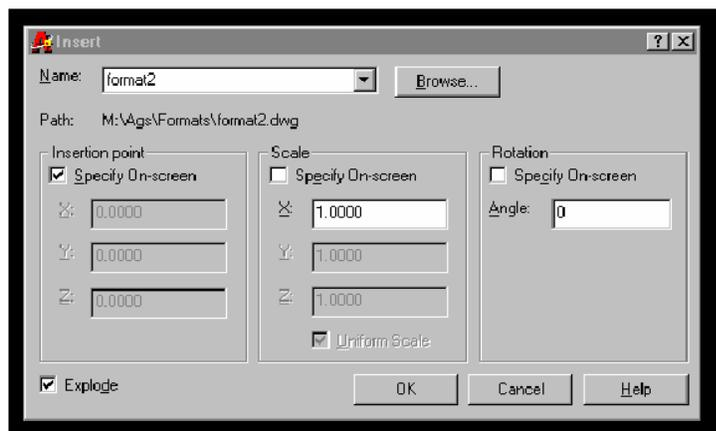

Figure 1
- 9.6 From the AutoCad menu, pick “insert block”, then pick the browse button on the dialog box to pick the format you require. The dialog box should look like figure 1 with your required format name in the name box.
The dialog box should look like Figure 1 below.